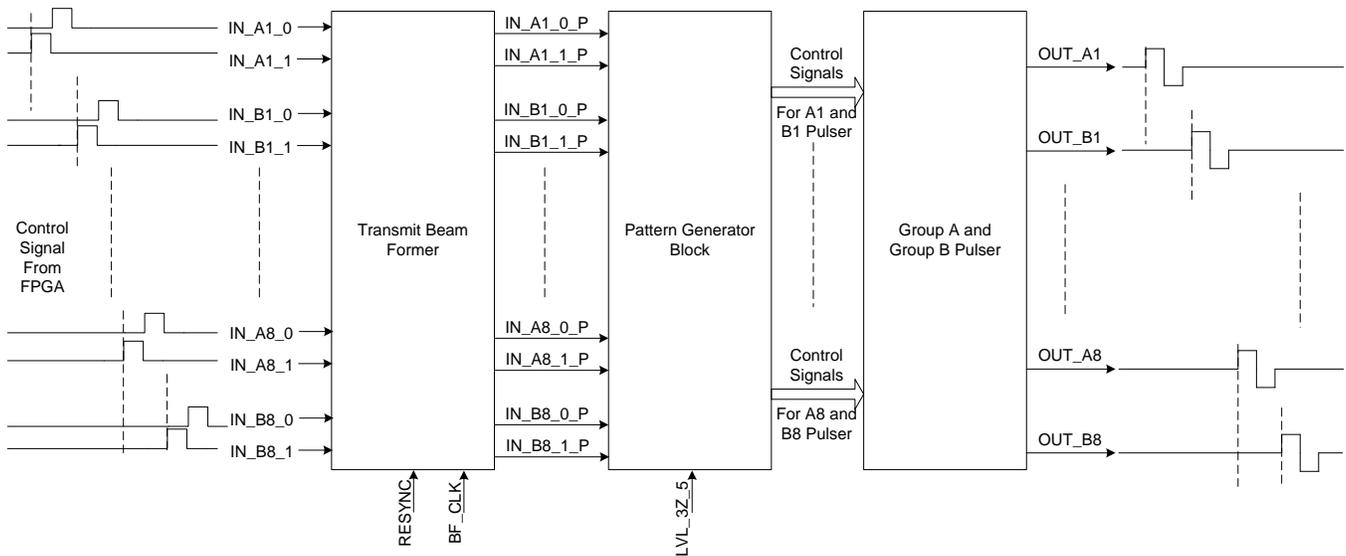

Figure 31. Off-chip Beam Forming Mode
1. Off-chip beam forming mode: A simplified block diagram of the device in off-chip beamforming is shown in Figure 31. In off-chip beamforming mode, the instantaneous pulser output of each channel is controlled by the control signals applied at input pins (IN_A*, IN_B*) of the device. A transmit beam forming block passes on all the control signals to a pattern generator block directly or by latching it on BF_CLK clock based on whether the re-synchronization feature is enabled or disabled. The Pattern generator block decodes the control signals and generates instantaneous control of the required voltage levels for the pulser block in both the 3-level and 5-level modes. Based on the output of the pattern generator block, the Pulser generates the high voltage output pulses.